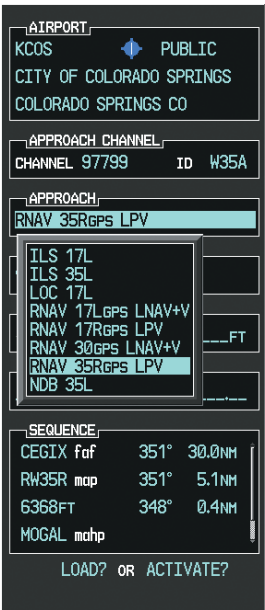

Figure 5-121 List of Available Approaches
c) Press the **ENT** Key. A list of available approaches for the destination airport is displayed as in Figure 5-121.
d) Turn either **FMS** Knob to select the LPV approach for 35R as shown in Figure 5-121.